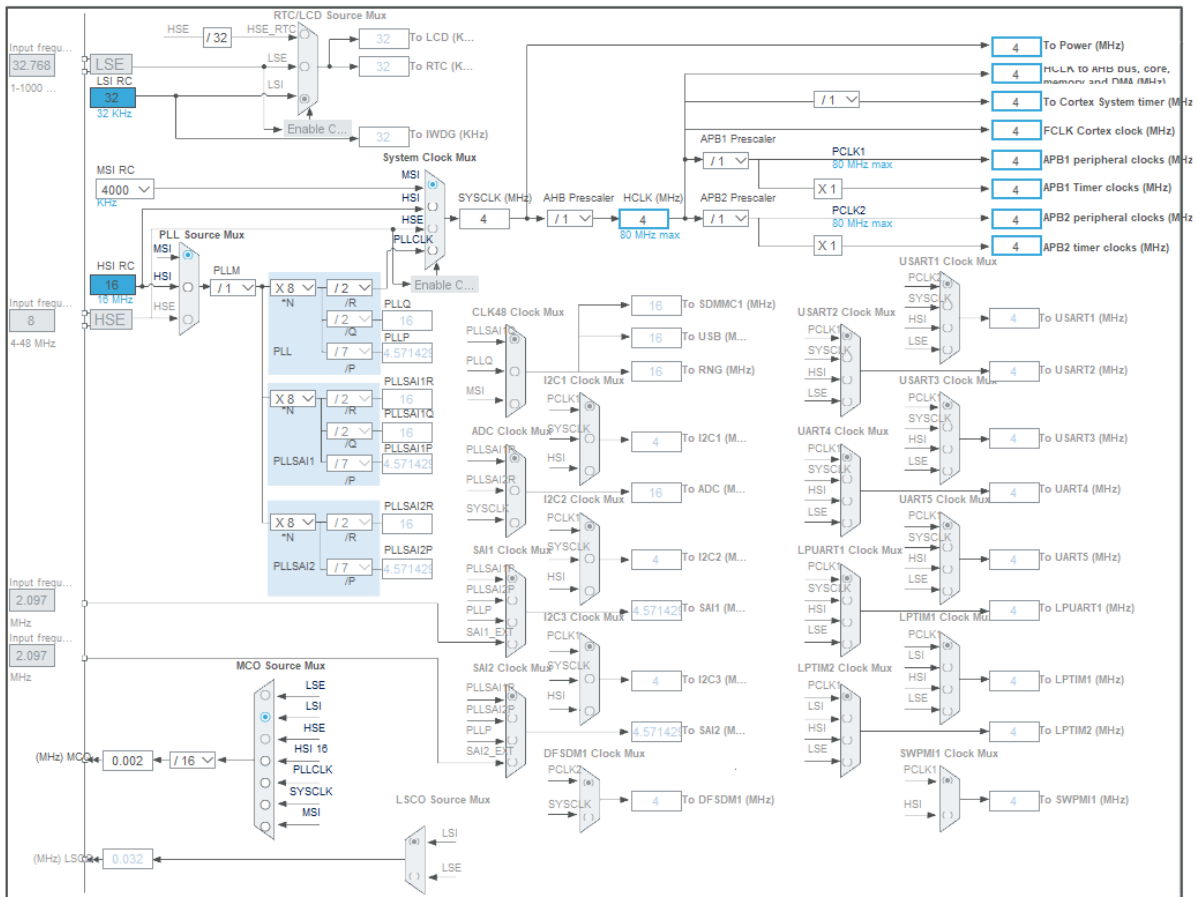

Figure 1: Clock controller STM32CubeIDE
- 2- Briefly explain RCC and describe the type of clock sources in figure 1 (max 200 words).